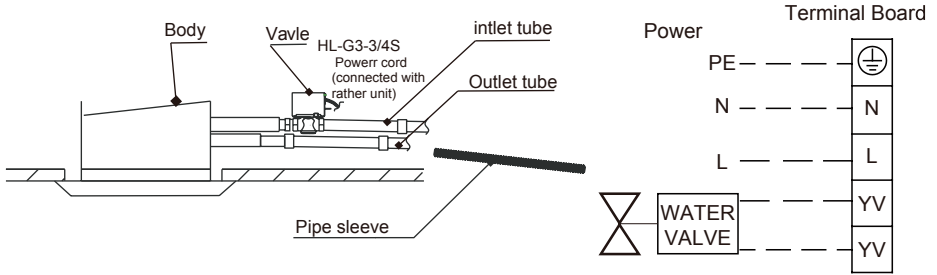

Fig.19
- ❗ After the installation of the water tube and motorized valve is finished, connect the wire of the motorized valve to the unit shown as Fig.19.